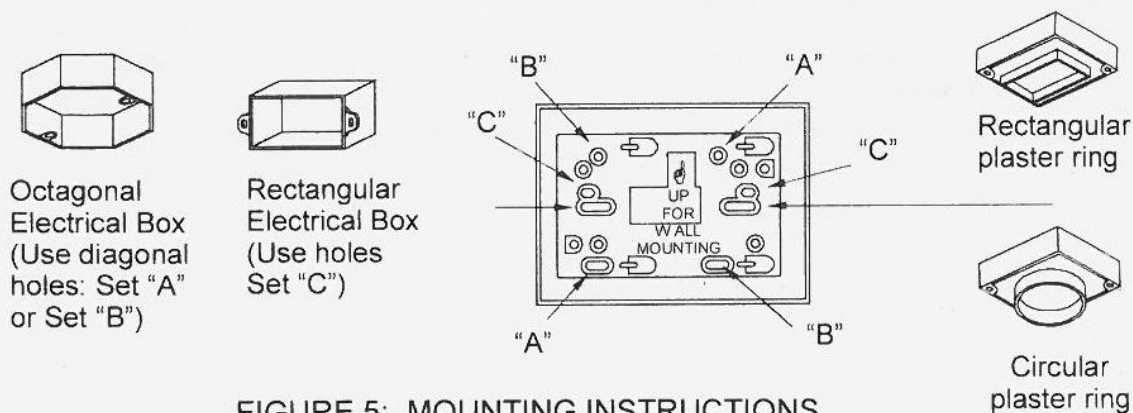

FIGURE 5: MOUNTING INSTRUCTIONS
- After selecting the proper detector location as described in section 3, and wiring the QUICK CONNECT harness as described in the *WIRING REQUIREMENTS*, attach the mounting plate to the electrical box (see figure 5).
- Secure the mounting plate to the electrical box using the appropriate holes (see figure 5).